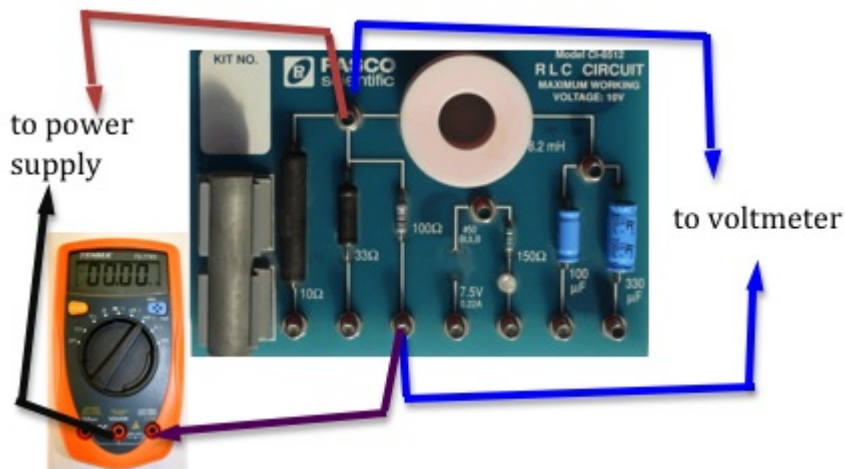

Figure 6: Circuit diagram for the 100- $\Omega$  resistor
Fig. 6 below show the connections for each individual resistor using the circuit board.
- 4 Connect the circuit shown in Fig. 6 for the 100- $\Omega$  resistor.